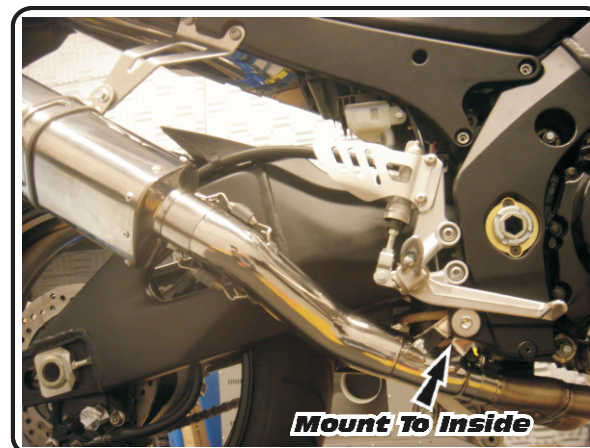

Fig. 3
- 7 Line up chassis mount on Yoshimura tailpipe with stock chassis mount location. Mount tail-pipe to inside of chassis mount using stock bolt and washer and supplied nut and washer. (See Fig.3)
- 10 Mount clamp to outside of Yoshimura muffler bracket using stock bolt, washer, and nut. (see Fig. 3 and 4)
- 4 Remove the orange cap on the grey wire harness plug by pressing the small orange tabs apart and pulling the orange cap off (See Fig. 3).